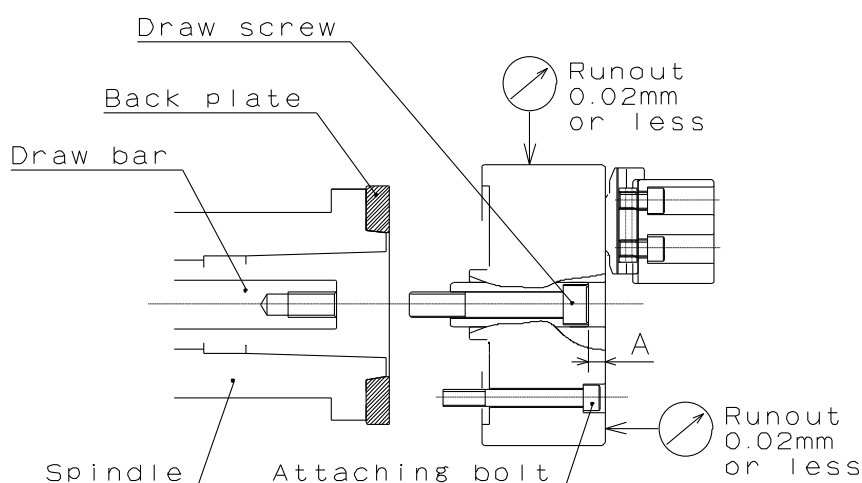

Fig.24
- The appropriate position of the wedge plunger at the cylinder forward end is the position when the dimension A in Fig.24 becomes as shown in the table below.